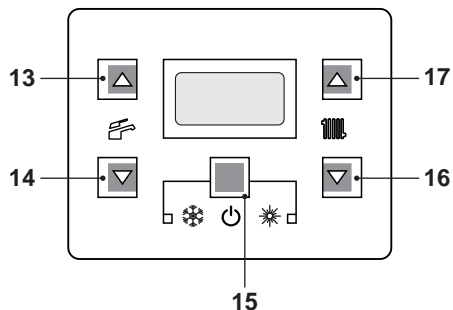
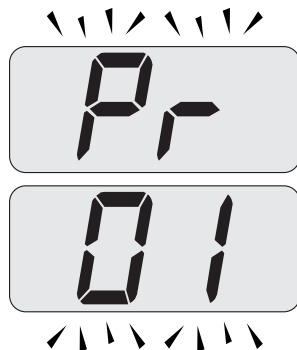
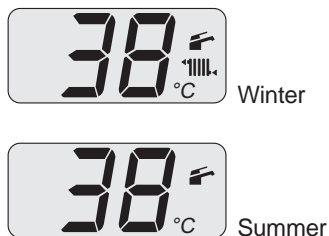

Fig. 9.11
Fig. 9.12
Fig. 9.16
- Enter in "programming mode" by pressing keys 15 - 16 - 17 (Fig. 9.11) for 10 seconds at the same time until the letters **Pr** that alternate with code **01** are displayed on the LCD display, indicating that "parameter 01"(Fig. 9.12) has been activated.
- Press keys 16 and 17 (Fig. 9.11) at the same time until the LCD display displays the letters **LP** that alternate with the heating water temperature value (e.g. **45**), indicating the activation of the "chimney sweep function" at minimum output (Fig. 9.13).
- Press keys 15 - 16 - 17 (Fig. 9.11) at the same time again to exit the "chimney sweep mode" and return to the previously set boiler status (Fig. 9.16).